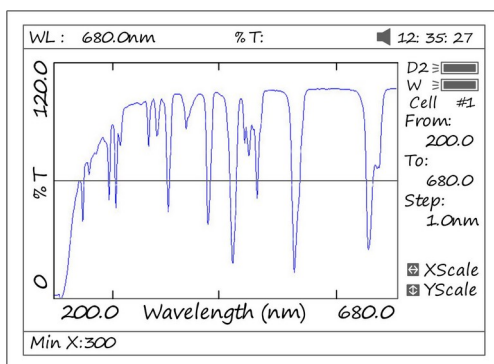

Fig 47
5. If you want to change the scale, press **[<]** or **[>]** to change “x” scale (Fig 47), input upper limit and lower limit by pressing the numeric keypad . To change “y” scale press **[^]** or **[v]**.